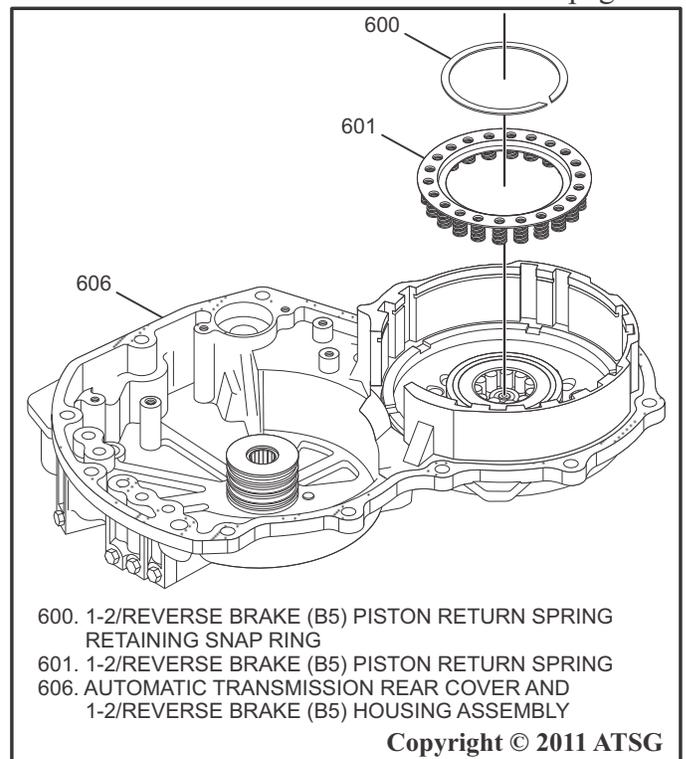

Figure 131
10. Install the 1-2/Reverse Piston Return Spring Assembly into the Piston as shown in Figure 131.
12. Install the 1-2/Reverse Piston Return Spring Retaining Snap Ring as shown in Figure 131.